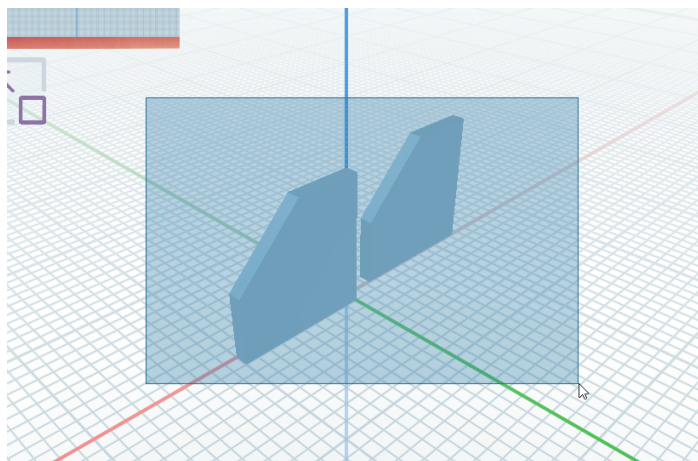

Figure 32 – Selecting objects with a frame
- by rectangular frame. All unselected objects that fall inside the frame will be selected (Figure 32). And if selected objects fall inside the frame, then the selection from them is removed.